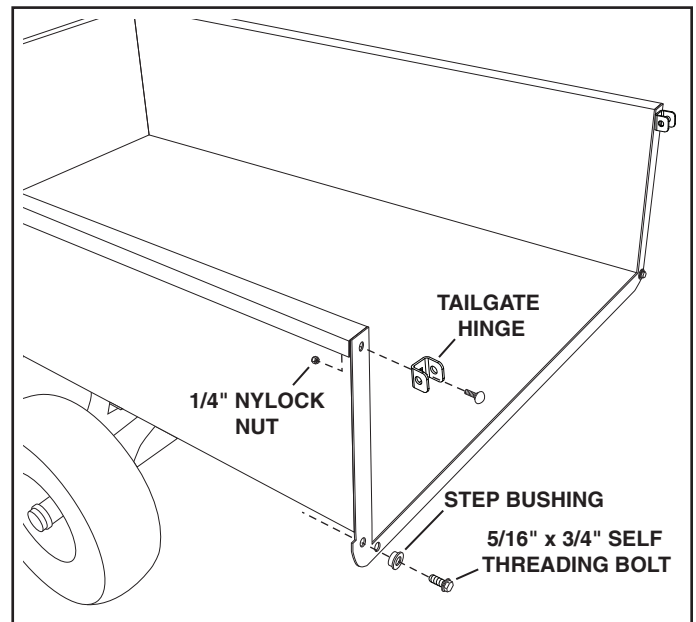

FIGURE 3
9. Attach two tailgate hinges to the top holes in the rear of the cart using two 1/4" x 3/4" carriage bolts and 1/4" nylock nuts. See figure 3.
10. Attach two step bushings to the holes shown in the rear of the cart using two 5/16" x 3/4" self threading bolts. See figure 3.